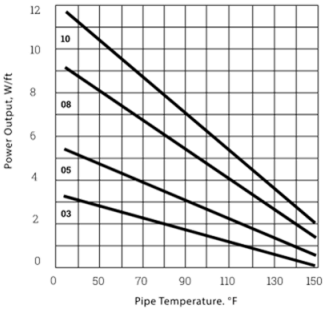

Figure 1-LXR
- For Metal Pipes—Use Figure 1 or 2.